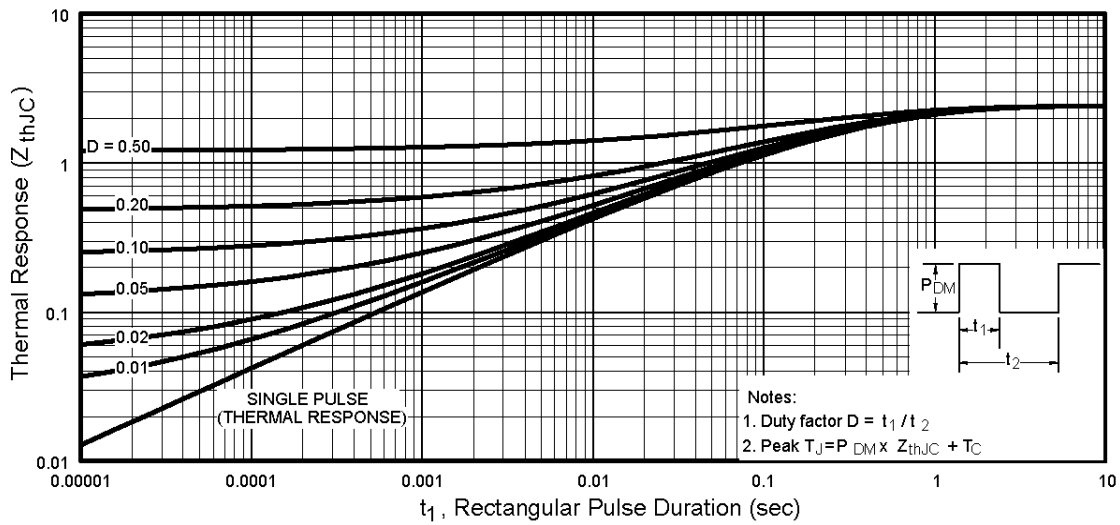

Fig 11. Maximum Effective Transient Thermal Impedance, Junction-to-Case
- ① Repetitive rating; pulse width limited by max. junction temperature. (See fig. 11)
② $V_{DD} = 25V$, starting $T_J = 25^\circ\text{C}$, $L = 1.2mH$